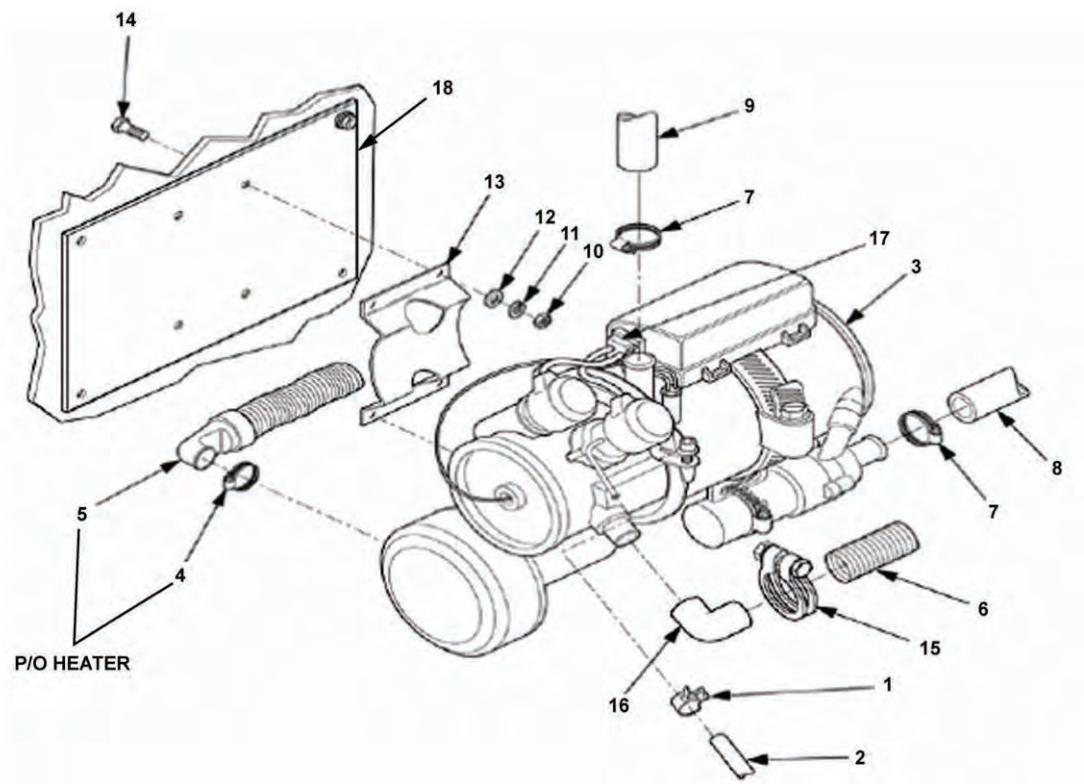

Figure 1. Heater Assembly Maintenance.
1. Install heater (Figure 1, Item 3) with attached mounting plate (13) on bulkhead housing (18). Secure with bolts (14), flat washers (12), new lockwashers (11), and nuts (10).
2. Connect coolant inlet hose (8) and outlet hose (9) to heater (3), using screw clamps (7). Top off radiator to replace any coolant lost in removing hoses.
3. Attach elbow (16) to heater unit (3) and exhaust flex hose (6) to elbow using screw clamp (15).
4. Connect wiring harness connector (17) to the heater (3).
5. Connect fuel line (2) to heater assembly (3) using clamp (1).